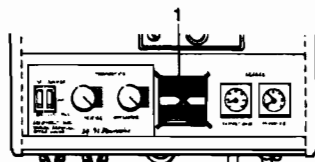

Fig. 1
Remove the clock aperture blanking plate (1) (fig 1) by squeezing the two lugs on the rear of the plate together and push the plate out.